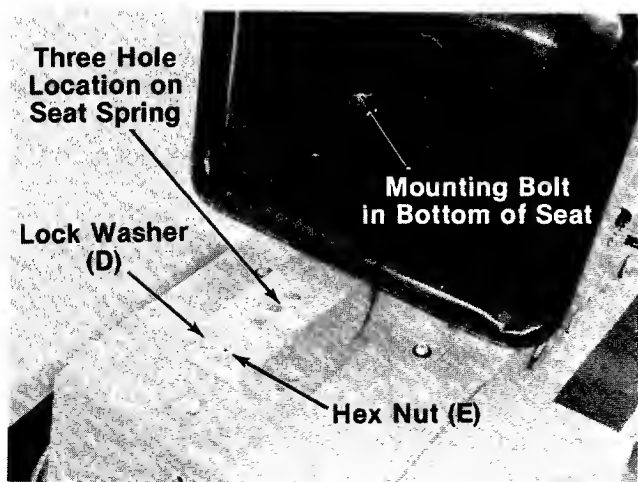

FIGURE 5.
- ← 5. The seat spring on the lawn tractor has three hole locations for mounting the seat (L). See figure 5.
Secure the seat in position on seat spring with lock washer (D) and hex nut (E). See figure 5.